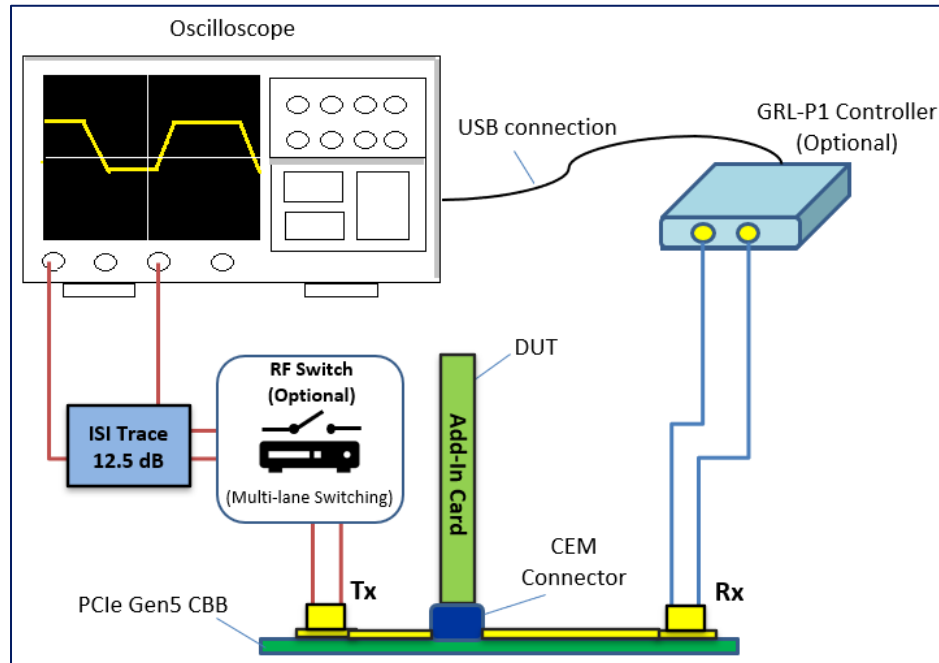

FIGURE 29. CONCEPTUAL PCIe GEN5 ADD-IN CARD TX TEST SETUP DIAGRAM USING GRL-P1 (WITH RF SWITCH AND ISI)
4. If using ISI, connect a 12.5 dB ISI in between the RF Switch outputs and Scope channels (Figure 29 below).